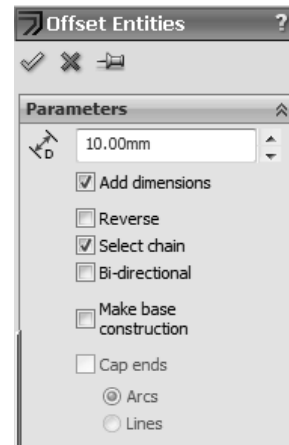

Figure 3-27 The Offset Entities PropertyManager
1. Choose the **Offset Entities** tool from the **Sketch CommandManager**; the **Offset Entities PropertyManager** is displayed, as shown in Figure 3-27. Also, you are prompted to select faces, edges, or curves to offset.